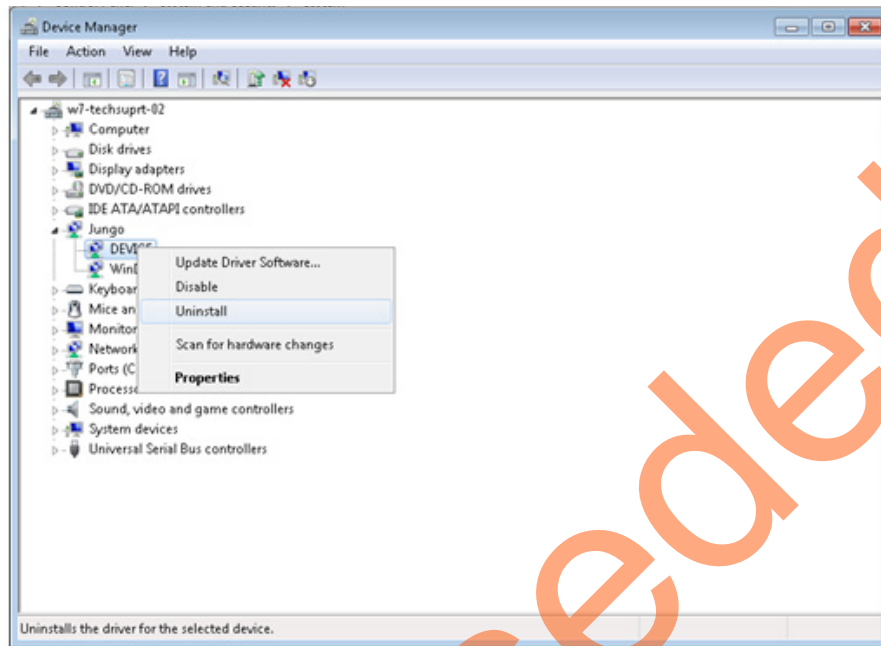

Figure 16 • Device Uninstall
- a. Navigate to device manager and right-click **DEVICE** and select **Uninstall** as shown in Figure 16. The **Confirm Device Uninstall** dialog box is displayed.